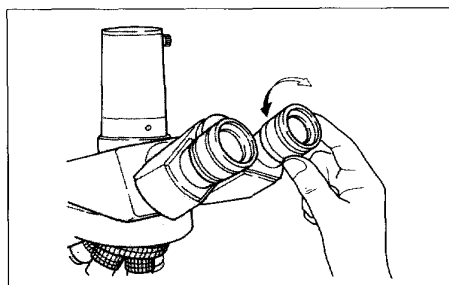

Fig. 8-2
(2) Swing the 40X objective by turning the revolving nosepiece and bring the specimen image into focus by turning the fine focus knob (or the coarse focus knob).
(3) Swing the 4X or 10X objective into position. Without **manipulating the fine and coarse focus knobs**, turn the diopter rings on the eyepieces so that the specimen images in the right and left eyepieces are focused individually (Fig. 8-2).